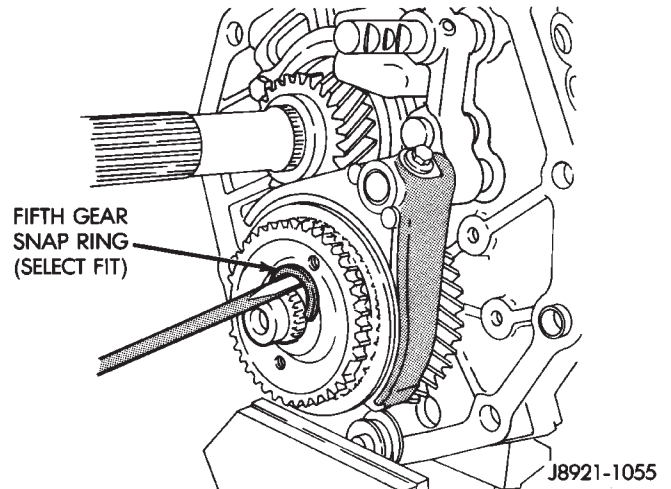

Fig. 50 Remove Fifth Gear Snap-ring
- (2) Remove countershaft fifth gear retaining snap-ring (Fig. 50).